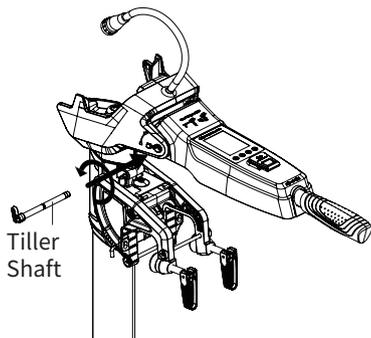

Figure 2-3
2. Insert the handle shaft into the hole to the end and lock it counter-clockwise (Figure 2-3).